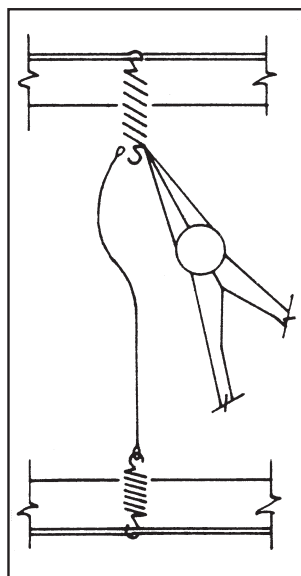

Figure 14
9.1 IONIZER WIRE REPLACEMENT (REFER TO FIGURES 14 AND 15)